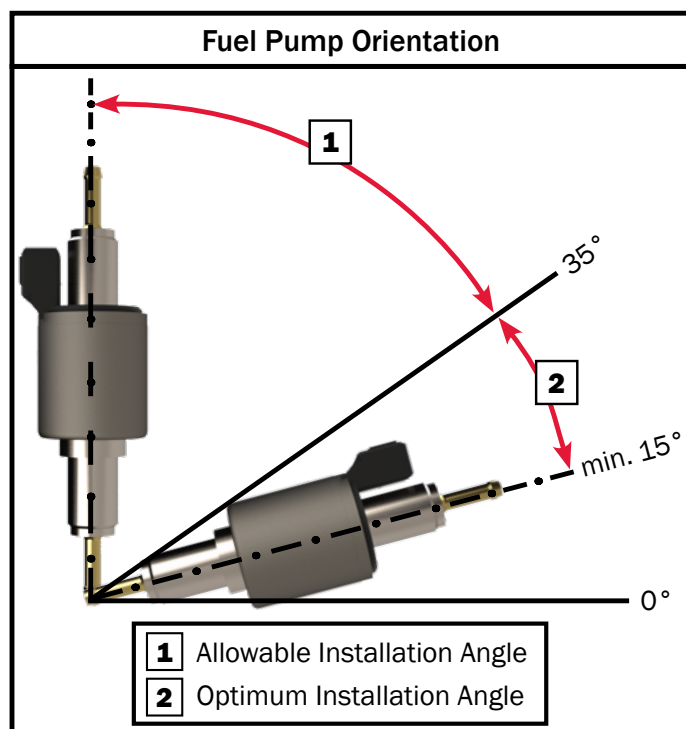

Figure 38
- Choose a location that meets the requirements detailed in Figure 38 & Figure 42.